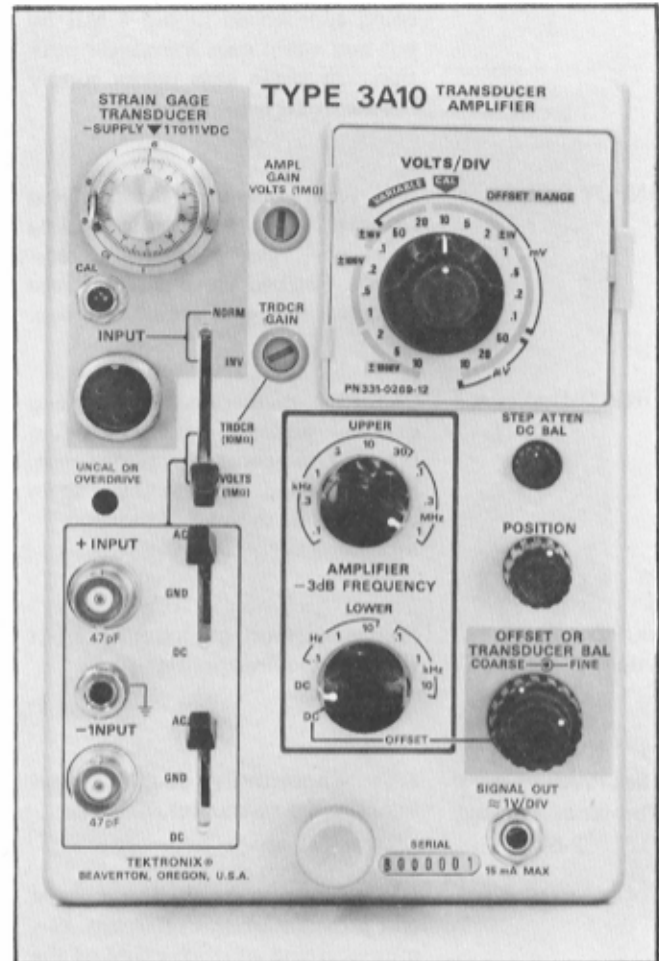

Fig. 2-1. Type 3A10 front-panel controls and connectors.
(See Fig. 2-1)
d. With the left-side panel of the oscilloscope removed, adjust the Sig Out DC Level (R467) for zero volts out at the SIGNAL OUT connector (see Figs. 2-1 and 2-2).